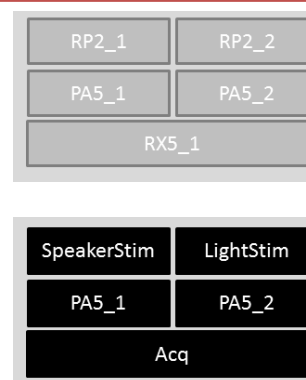

Figure 2. Unpopulated (top) and populated (bottom) device navigator
The procedure for designing new experiments with EPhys begins with assigning labels and RPvds files to the TDT hardware modules using the Device Navigator of OpenWorkbench (TDT). While labels are arbitrary in reality, descriptive labels should be used in practice. One example would be to use the label **Stim** for a module (such as an RP2.1, RX6, RZ6, or other module) which will be used to control stimulation during the experiment, such as a speaker or light. If multiple stimulus modules are to be used in an experiment then names such as **Stim1** and **Stim2**, or **SpeakerStim** and **LightStim** can be used (**Error! Reference source not found.**). One or multiple data acquisition modules (such as an RX5, RZ5, or other module) can be assigned a label in a similar manner (**Acq**, for acquisition device, is used in Figure 2). Note that not all modules need to be populated. The labels assigned in the Device Navigator of OpenWorkbench will be used to direct parameters during protocol design using the EPhys toolbox.
**NOTE: Programmable Attenuator PA5 modules should be labeled PA5 followed by a suffix if desired as is in the example in Figure 2.**